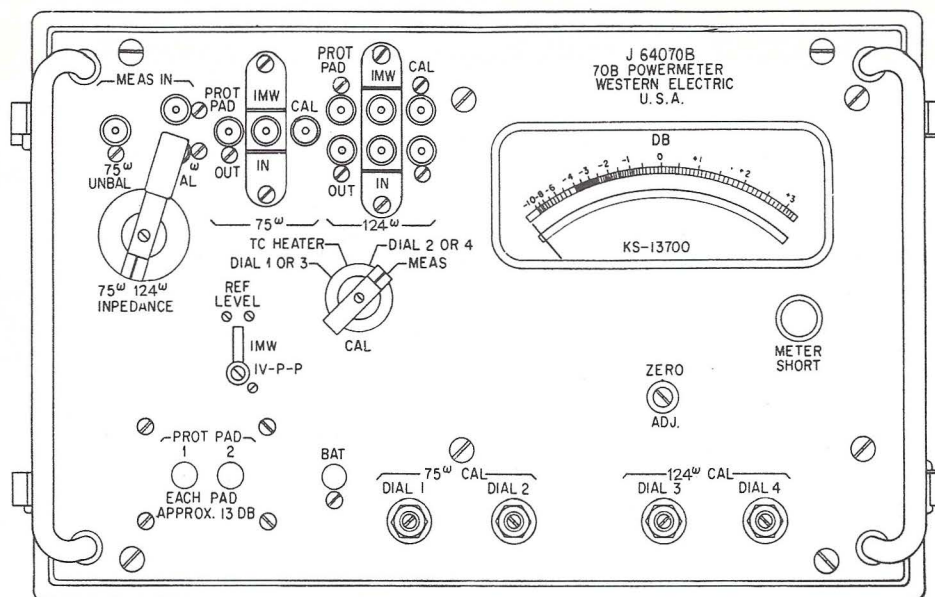
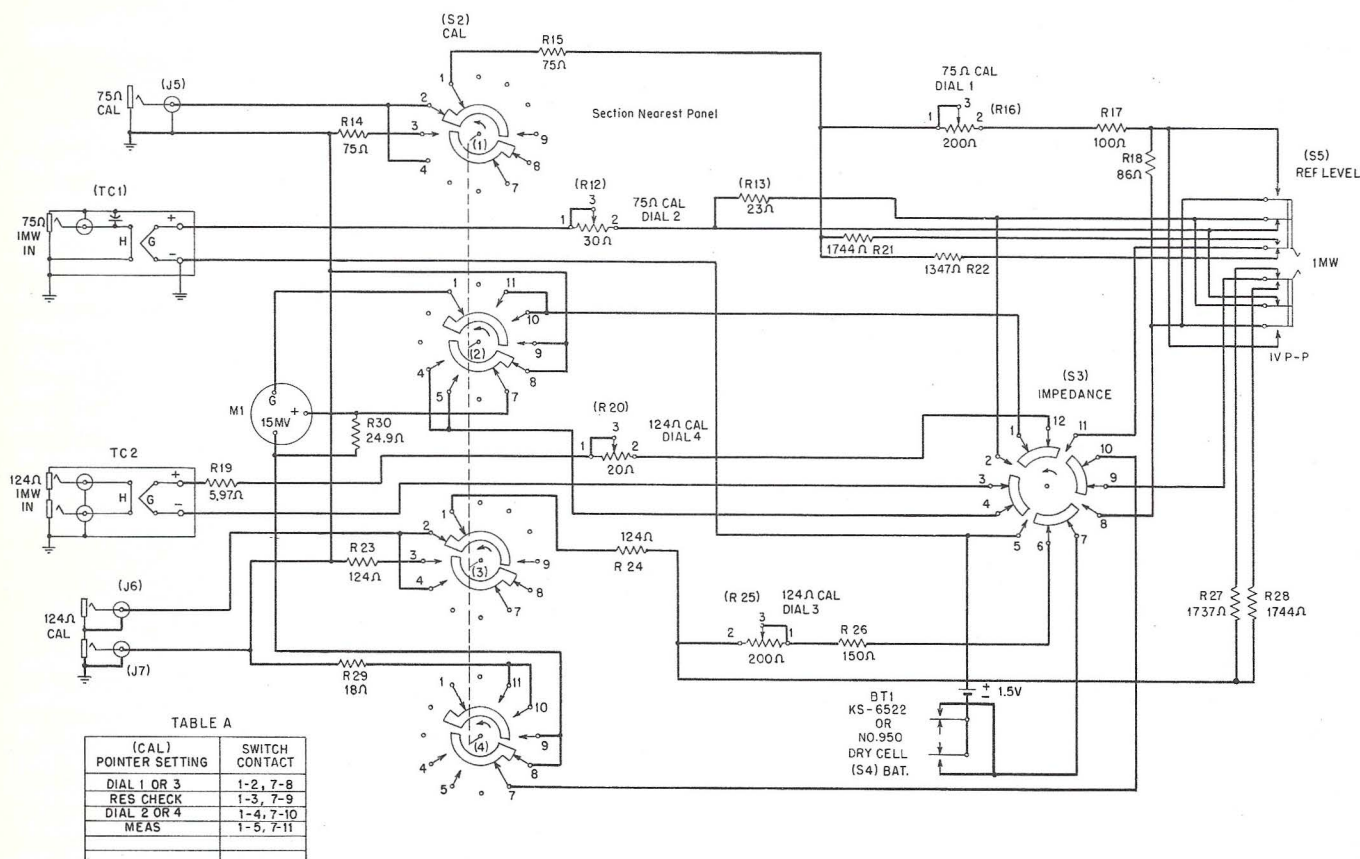

Fig. 6 - Panel of 70B Power Meter
Fig. 7 - 75-Ohm and 124-Ohm Thermocouple Circuits
**5.01** The 70B power meter is designed to measure power over a frequency range from dc to 20 megacycles at 75-ohm and 124-ohm impedance levels by means of a 75-ohm and a 124-ohm thermocouple. The direct current generated by either thermocouple produces a deflection on a sensitive calibrated meter. The thermocouple units are so designed as to minimize the length of leads in the high-frequency portion of the circuit providing uniform performance over the desired frequency band. A direct current circuit permits calibration at a reference of 0 dbm or 0 dbv. The top view of the 70B power meter is shown in Fig. 6.
**(B) 75-Ohm and 124-Ohm Thermocouple Circuits**
**5.02** The 75-ohm unbalanced and the 124-ohm balanced thermocouple circuits, together with their calibrating circuits, are shown in Fig. 7. The 75-ohm thermocouple, (TC1), and the 124-ohm thermocouple, (TC2), are of the insulated bead type. The impedance of the thermocouple's heaters has a negligible reactance up to 20 megacycles. Stray inductance is kept small by making leads as short and straight as pos-